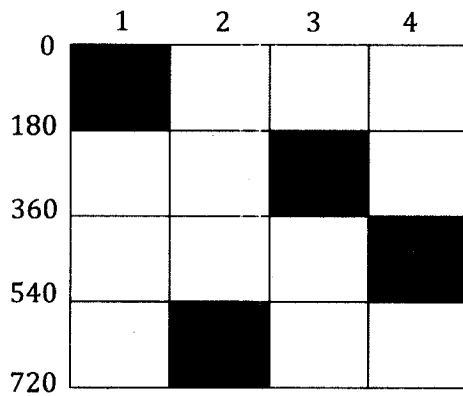

Figure Q14 Firing order diagram for a four cylinder four stroke cycle engine.
14. Figure Q14 below shows the firing order diagram for a four cylinder four stroke cycle engine.